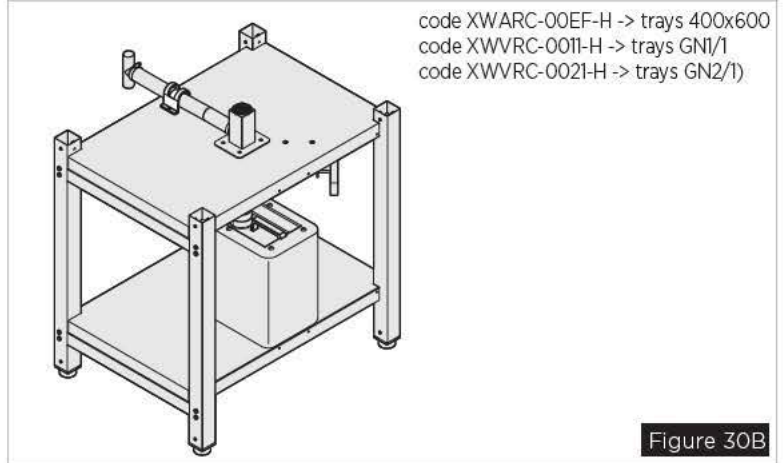

Figure 30B
- **Pollo-Kit (Figure 30B)** (XUC020), installed on a high stand (code XWARC-00EF-H for 400x600 trays, code XWVRC-0011-H for GN1/1 trays and code XWVRC-0021-H for GN2/1 trays) or on a neutral cabinet. In this case, a screen message requires a manual conveying of the grease into the special airtight connection tank via a shut-off valve.